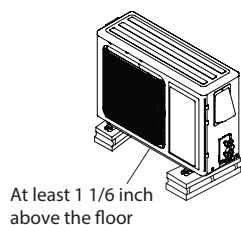

Fig.18
3. The outdoor unit should be installed at least 1 1/6 inch above the floor in order to install drain joint.(As show in Fig.18)